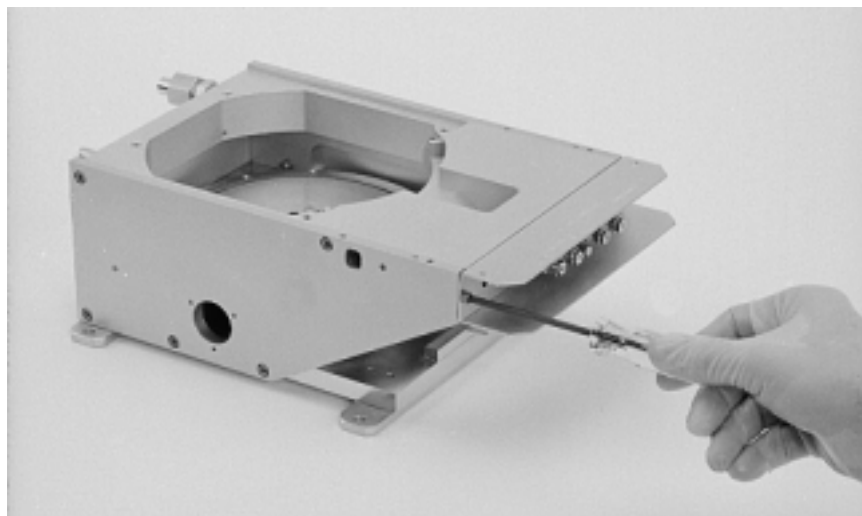

Figure 6-12. Removing the coil shield
Step 11: Remove the two 8-32 3/8" screws that secure the coil shield to the source, as shown in Figure 6-12. Then remove the coil shield.